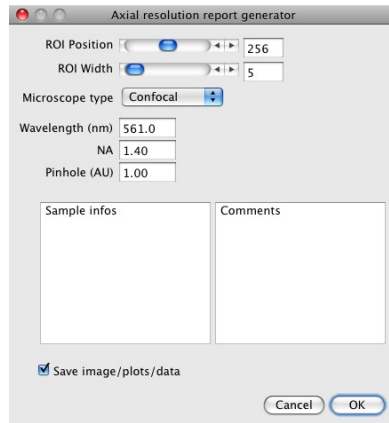

Figure 4.2: Generate axial resolution report: the interface.
5. The plugin's interface should appear (see fig. 4.2);